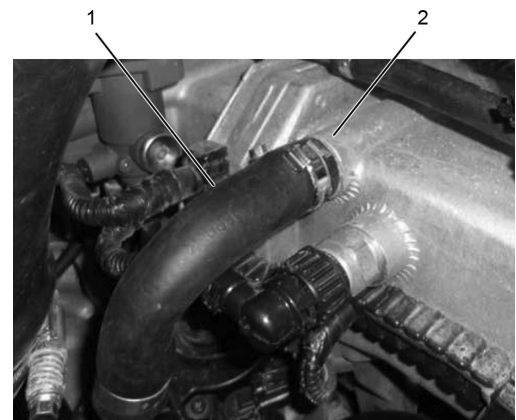

Figure 4
7. Disconnect EGR cooler low-temperature coolant outlet hose (Figure 4, Item 1) from fitting on EGR low-temperature cooler outlet (Figure 4, Item 2) and position hose out of the way.